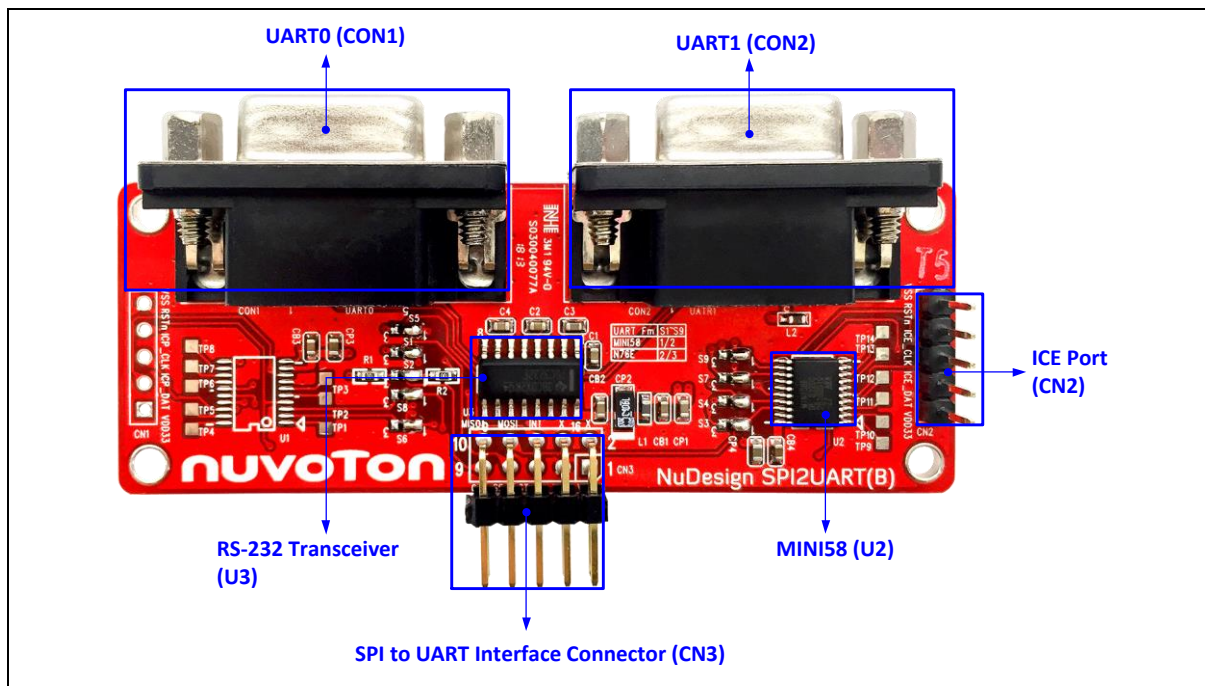

Figure 2-5 NuDesign-SPI2UART PCB Board(B) (Front View)
Figure 2-5 shows the front view of NuDesign-SPI2UART(B) PCB board.